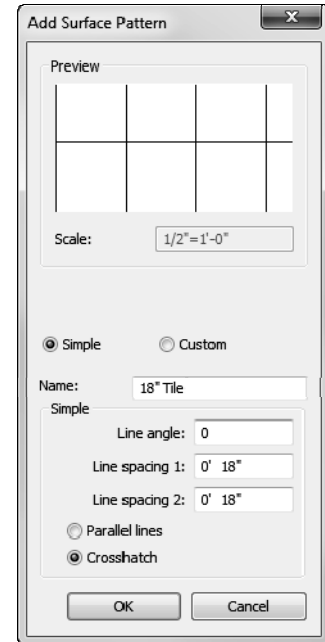

FIGURE 4-4.15 Add surface pattern
62. Create a new pattern named **18" Tile**; adjust the settings to match Figure 4-4.15.